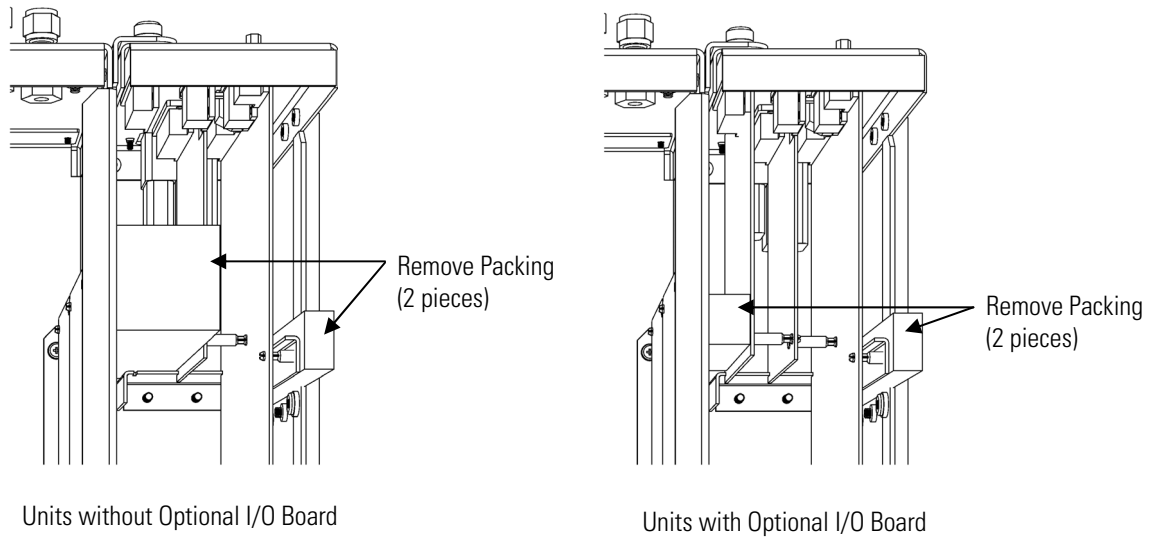

Figure 2-1. Remove the Packing Material
3. Remove the packing material in the analyzer (Figure 2-1).